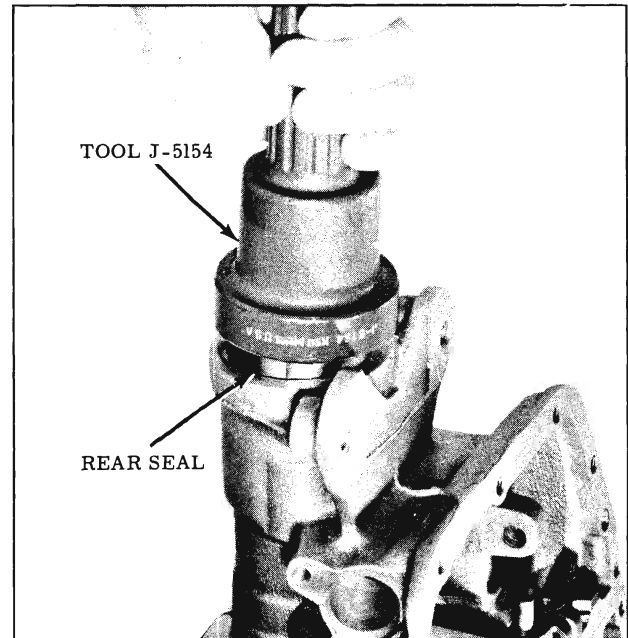

Fig. 3-269 Installing Rear Seal
4. If necessary to remove parking pawl bracket shaft, remove two bracket shaft "E" rings. (Fig. 3-269)
meter of the rear oil seal and install with Tool J-5154. (Fig. 3-269)